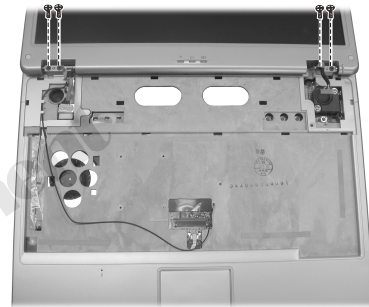

Figure 2-19 Free the LCD assembly
5. Remove the four screws, then free the LCD assembly. (Figure 2-19)